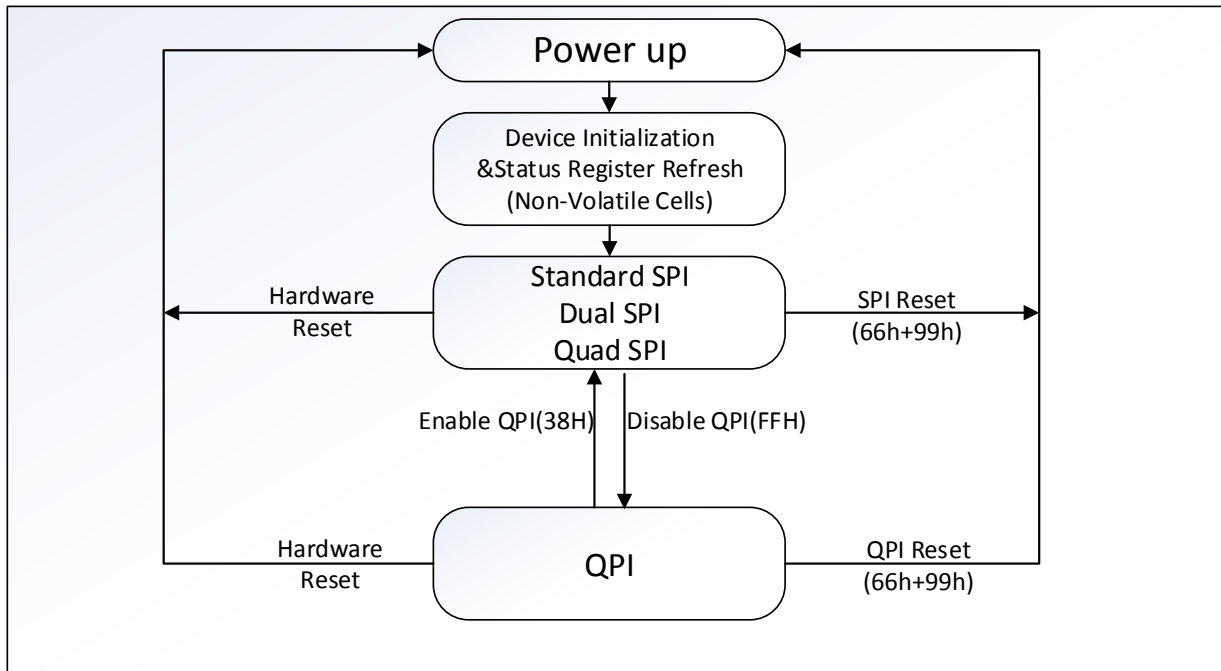

Figure 3. XM25QH128C Serial Flash Memory Operation Diagram
The XM25QH128C supports Quad Peripheral Interface (QPI) operations only when the device is switched from Standard/Dual/Quad SPI mode to QPI mode using the “Enter QPI (38h)” instruction. The typical SPI protocol requires that the byte-long instruction code being shifted into the device only via DI pin in eight serial clocks. The QPI mode utilizes all four IO pins to input the instruction code, thus only two serial clocks are required. This can significantly reduce the SPI instruction overhead and improve system performance in an XIP environment. Standard/Dual/Quad SPI mode and QPI mode are exclusive. Only one mode can be active at any given time. “Enter QPI (38h)” and “Exit QPI (FFh)” instructions are used to switch between these two modes. Upon power-up or after a software reset using “Reset (99h)” instruction, the default state of the device is Standard/Dual/Quad SPI mode. To enable QPI mode, the non-volatile Quad Enable bit (QE) in Status Register-2 is required to be set. When using QPI instructions, the DI and DO pins become bidirectional IO0 and IO1, and the /WP and /HOLD pins become IO2 and IO3 respectively. See Figure 3 for the device operation modes.